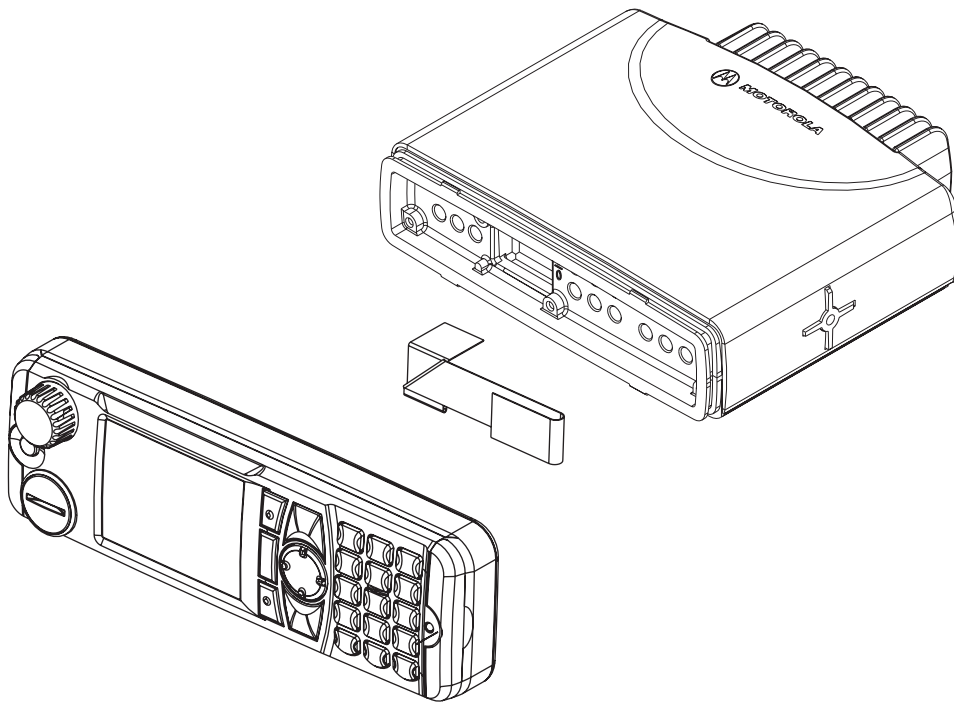

Figure 2 Flexible Connection Removal
1. Align the 'dot' or 'O' marking on the flex with the 'O' mark on the chassis to the socket on the terminal assembly as shown in Figure 2.